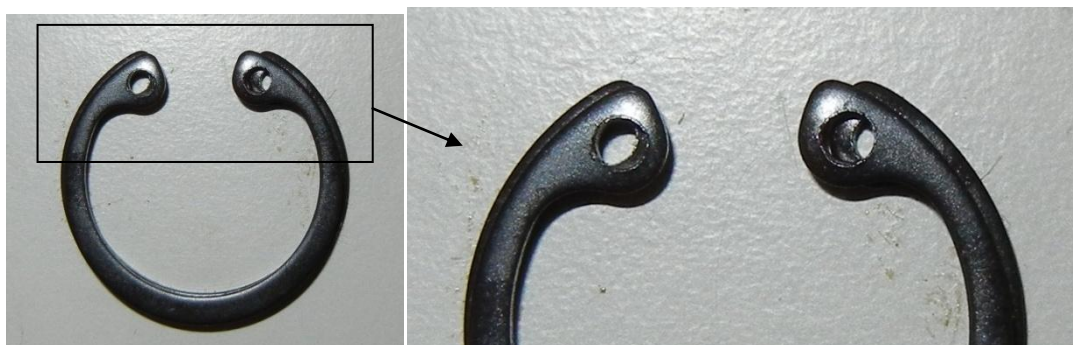

Figure 133 – Over-Compressed and New Clips
- **When fitting the clip, take care to compress it by the bare minimum amount required. DO NOT compress the clip until the eyes touch. Over-compressing may permanently damage the clip: Figure 133 shows a clip which was over-compressed lying on top of a brand new clip. Note how the clip on top has been bent to a smaller size compared to the one underneath. This damage to the clip reduces the force it can apply to its housing and makes it easier to dislodge. Specially modified circlip pliers such as those shown in Figure 21 may be used to prevent damaging clips.**